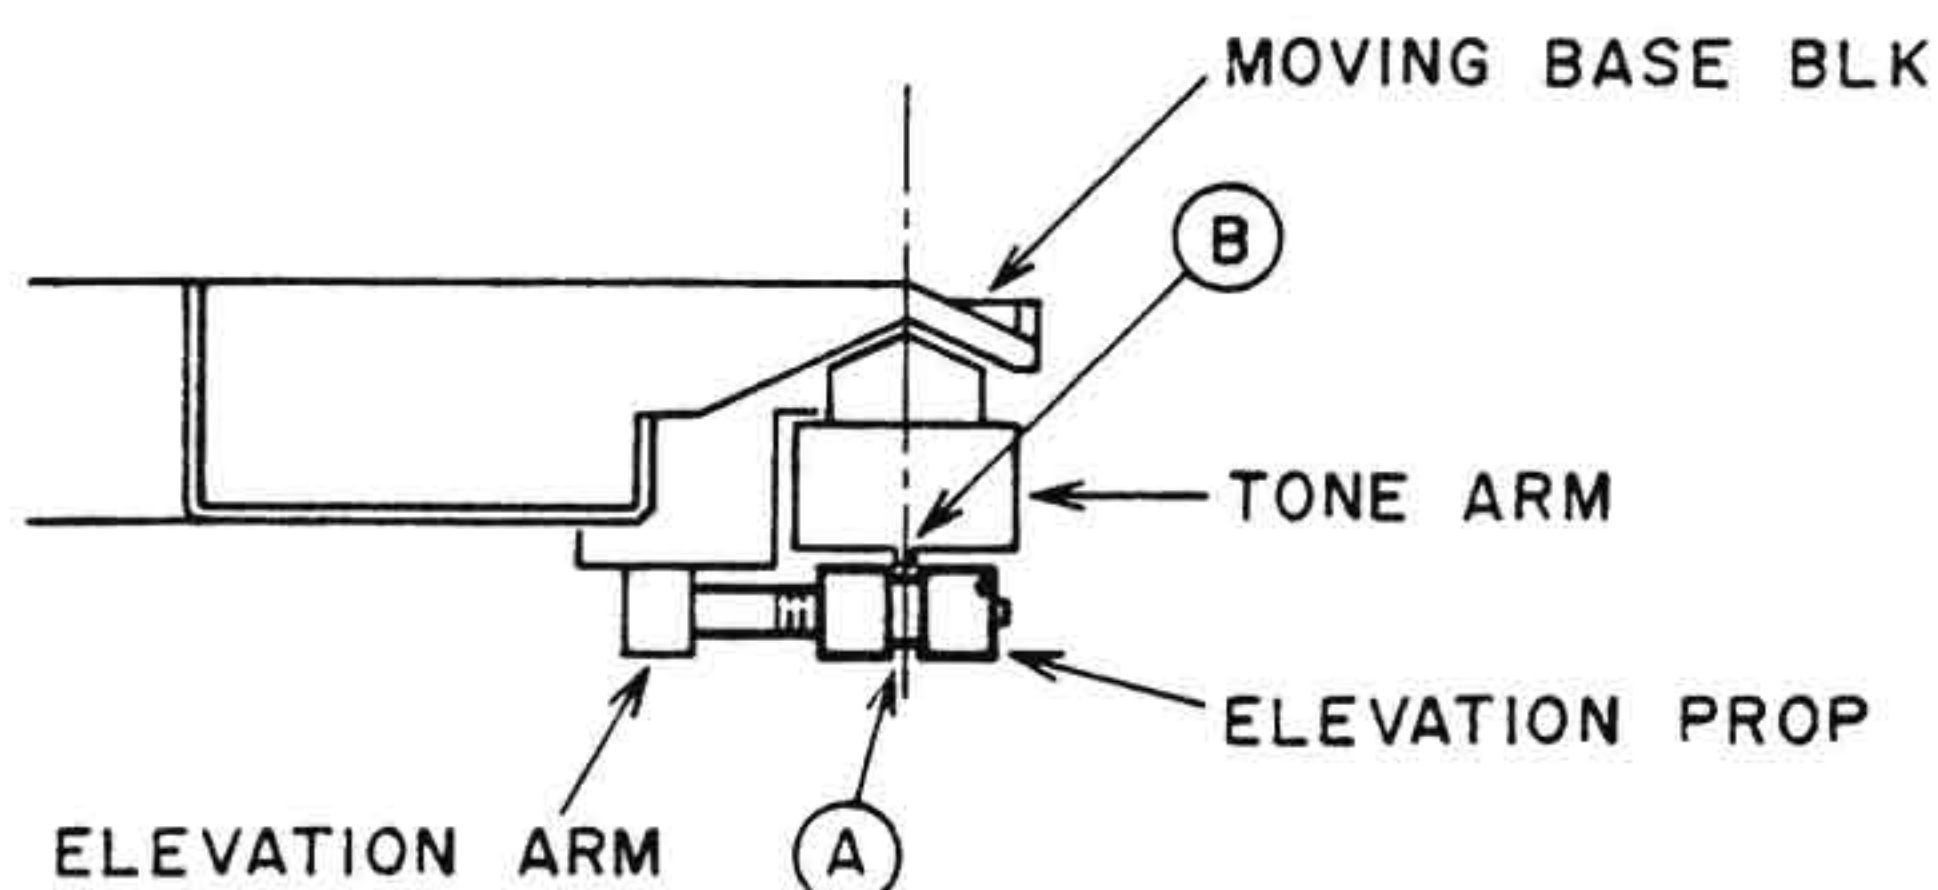

Fig. 6-1
6-2 ELEVATION AND POSITION ADJUSTMENT (Refer to Fig. 6-1)
Then, bring the Elevation Prop close to the Tone Arm, and adjust the Elevation Prop with a flat type screw-driver to the place where the position of the notch ① on the Elevation Prop coincides with the projecting part ② on the Tone Arm as shown in Fig. 6-1.